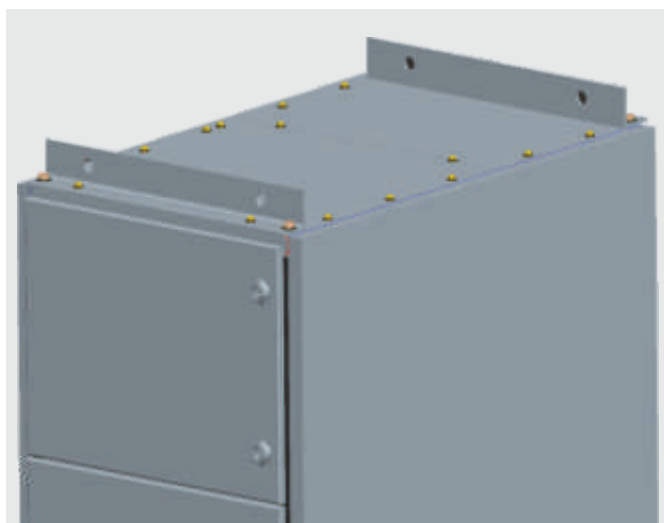

Figure 17 - Top plate
5. Join horizontal bus bars using the fishplates as shown in Figure17.